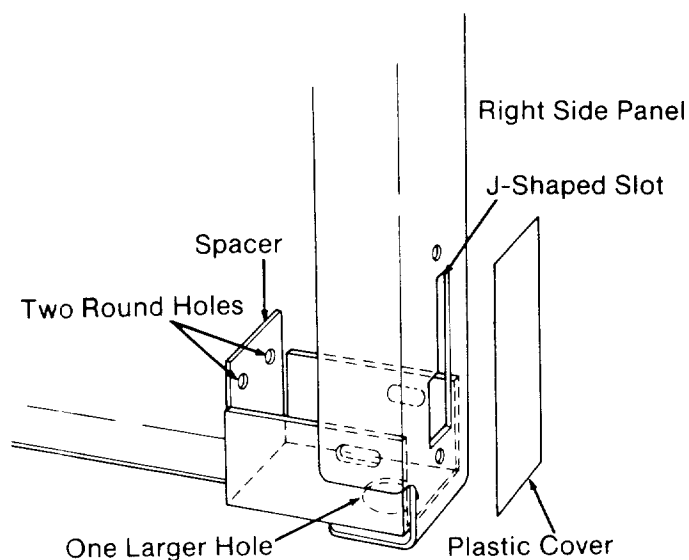

Fig. 17
12. Put a *spacer* inside the *right side panel* as shown. The side of the *spacer* with two round holes should be opposite the J-shaped slot in the *side panel*, and the side with one larger hole should be on the bottom. (Figure 17)
15. Put a *plastic cover* over the J-shaped slot in the *side panel*. (Figure 17)